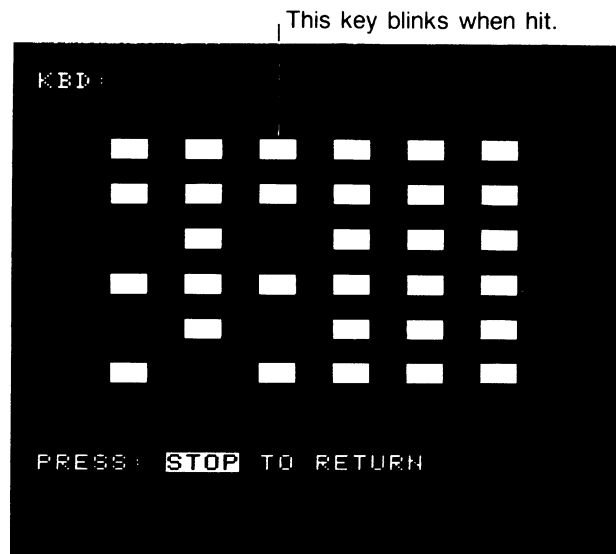

Figure 5-36. 338 Keyboard test display. ^{4433.07}
2. When an error message appears, press the START key. The Diagnostics menu will be displayed on the screen. Press 0 to run the KBD test. Refer to Figure 5-36.